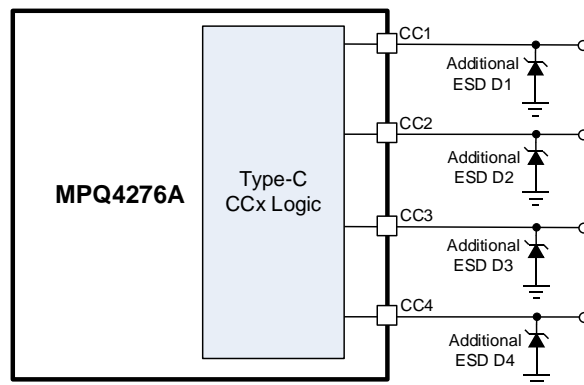

Figure 11: Enhancing ESD on the CCx Pins
Higher ESD levels should be considered for all USB I/O pins. The MPQ4276A features high ESD protection up to ± 7 kV on a human body model (HBM) on USB1 and USB2, and ± 1.8 kV on a HBM on CC1, CC2, CC3, and CC4. The ESD structures can withstand high ESD during normal operation and when the device is turned off. To further extend CCx's ESD level for most application environments, additional ESD diodes can be placed on the CCx pins (see Figure 11).
12) See Figure 11 on page 21 for details on how to enhance the ESD protection ratings on the CCx pins.